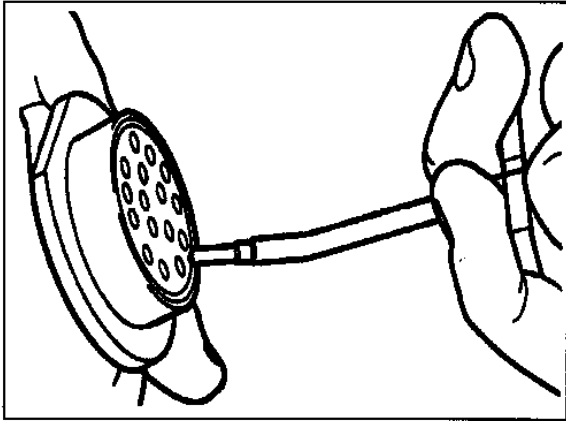

Figure 25 Pull Contact/Wire/Tool Assembly Out of Connector
- Pull the contact/wire/tool assembly out of the connector (Figure 25).